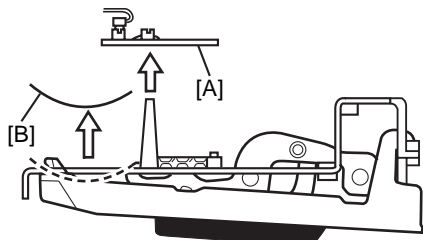

Fig.7
- 13-1 Remove the circuit board marked [A], and then remove the key spring marked [B]. (Fig. 7)